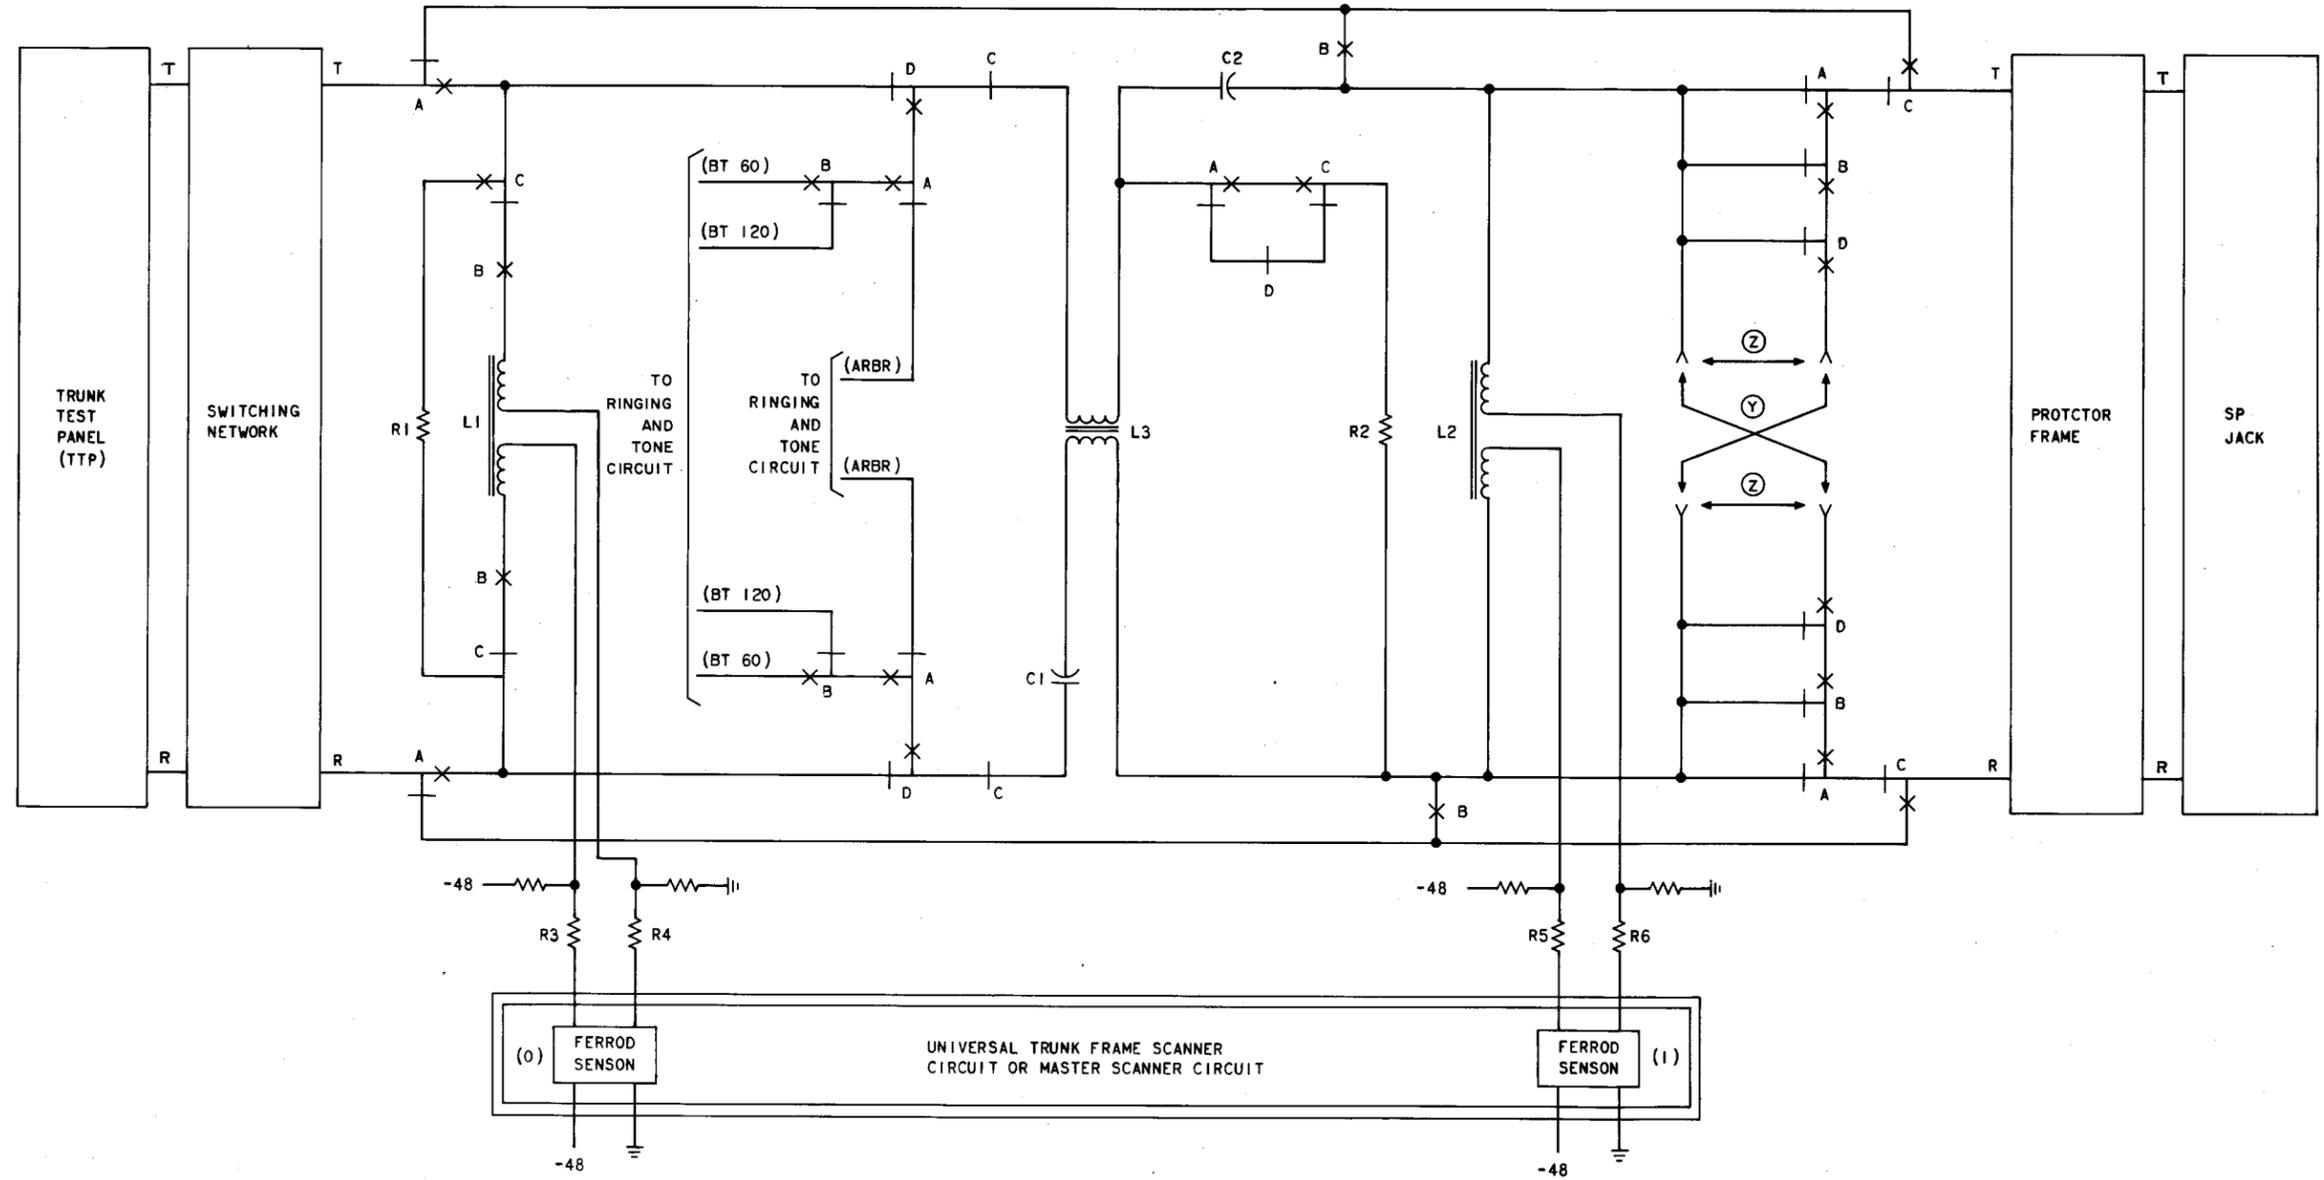

Fig. 1—Line Access Trunk Circuit (SD-2H186)
**3.05** The following is a step-by-step procedure to make the incoming trunk circuit traffic busy and connect it to the TTP (Fig. 1).